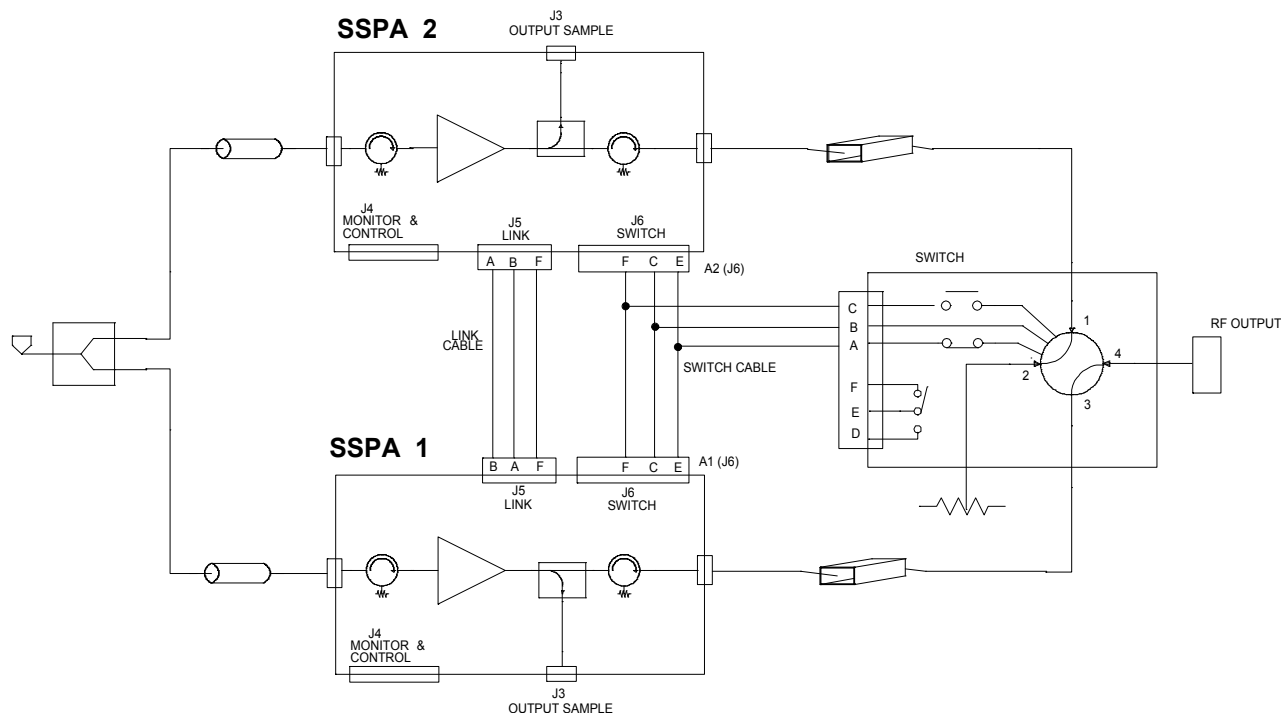

Figure 7-6: 1:1 Redundant System with Link Cable and Switch Cable installed
The hardware setup for a Compact Outdoor 1:1 Redundant System is very simple and involves the addition of (2) cables along with a redundancy switch. A schematic diagram of the redundancy setup is shown in Figure 7-6.